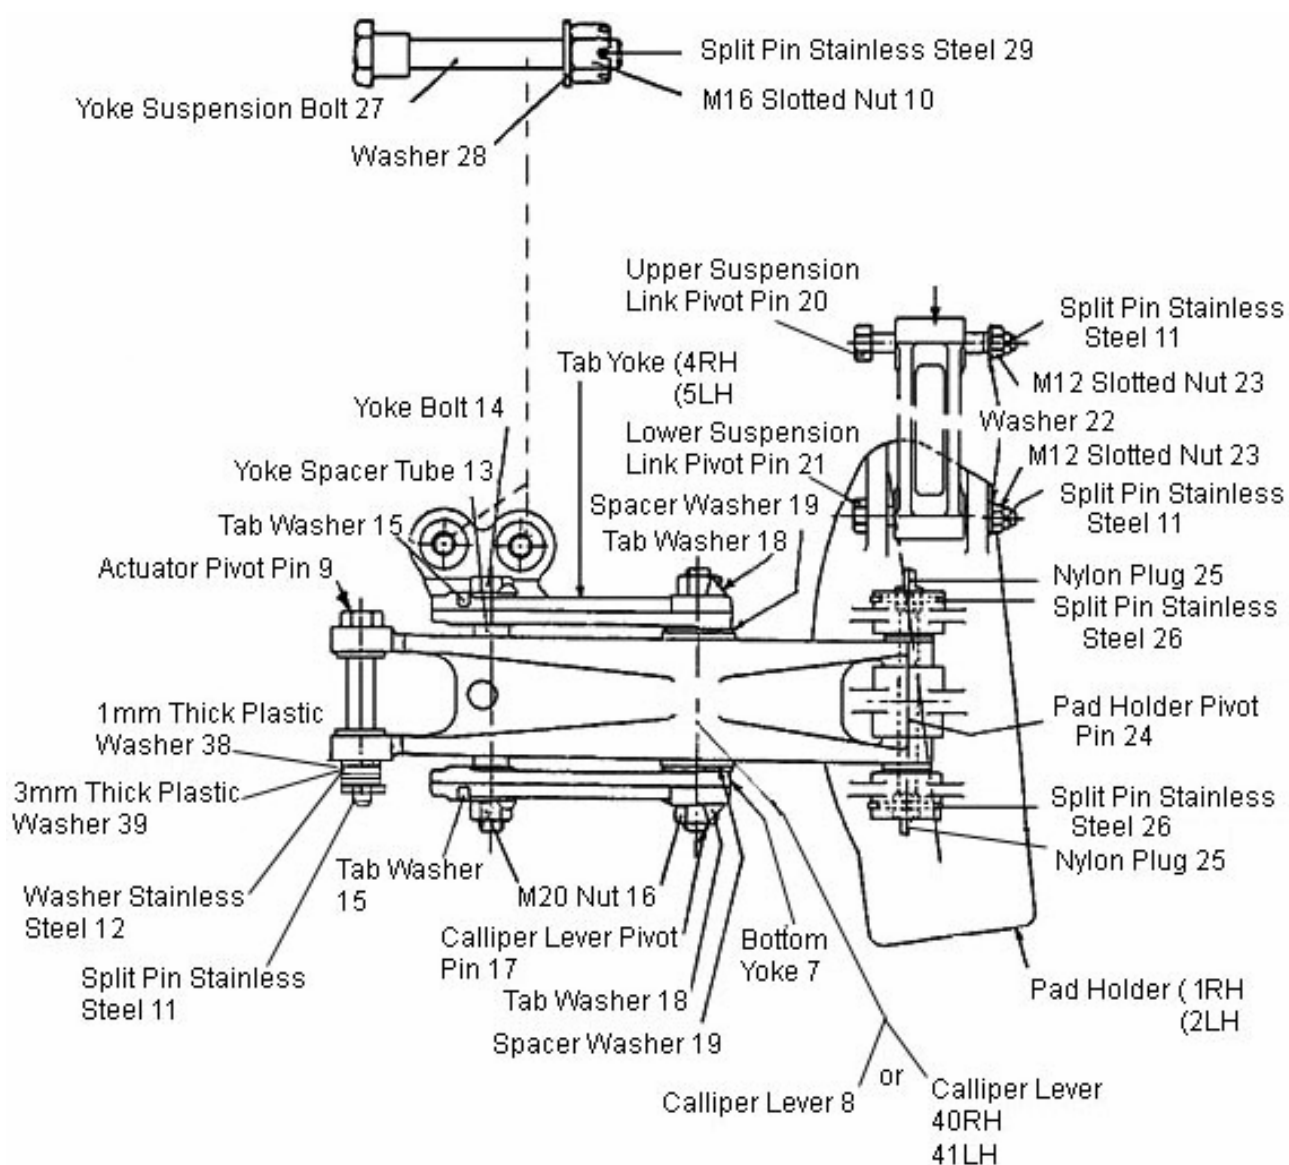

Figure 11.1: Brake Calliper Assembly
11. Fit brake callipers and actuators, (see Figure 11.1) as follows: